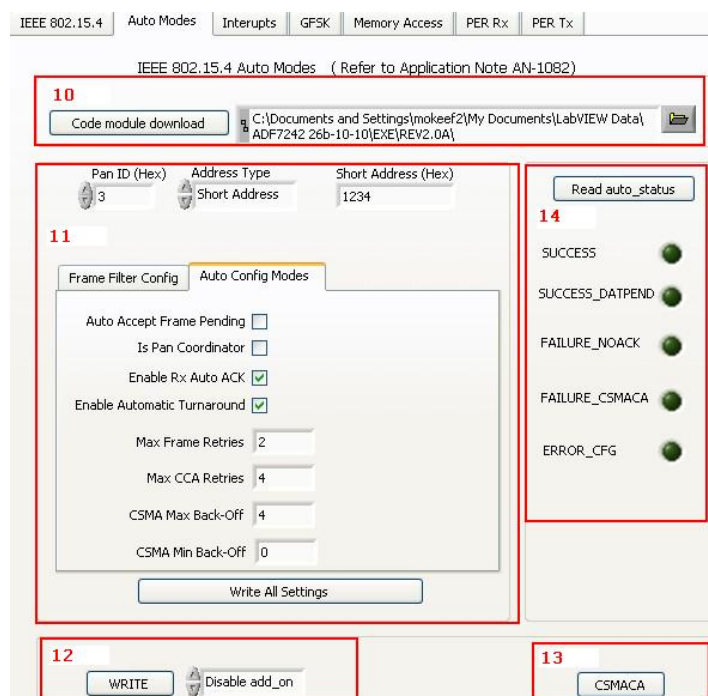

Figure 3 IEEE 802.15.4 Auto modes tab
10. To enable these modes the firmware should first be downloaded. This is selected under the Auto Modes tab shown in figure 3.